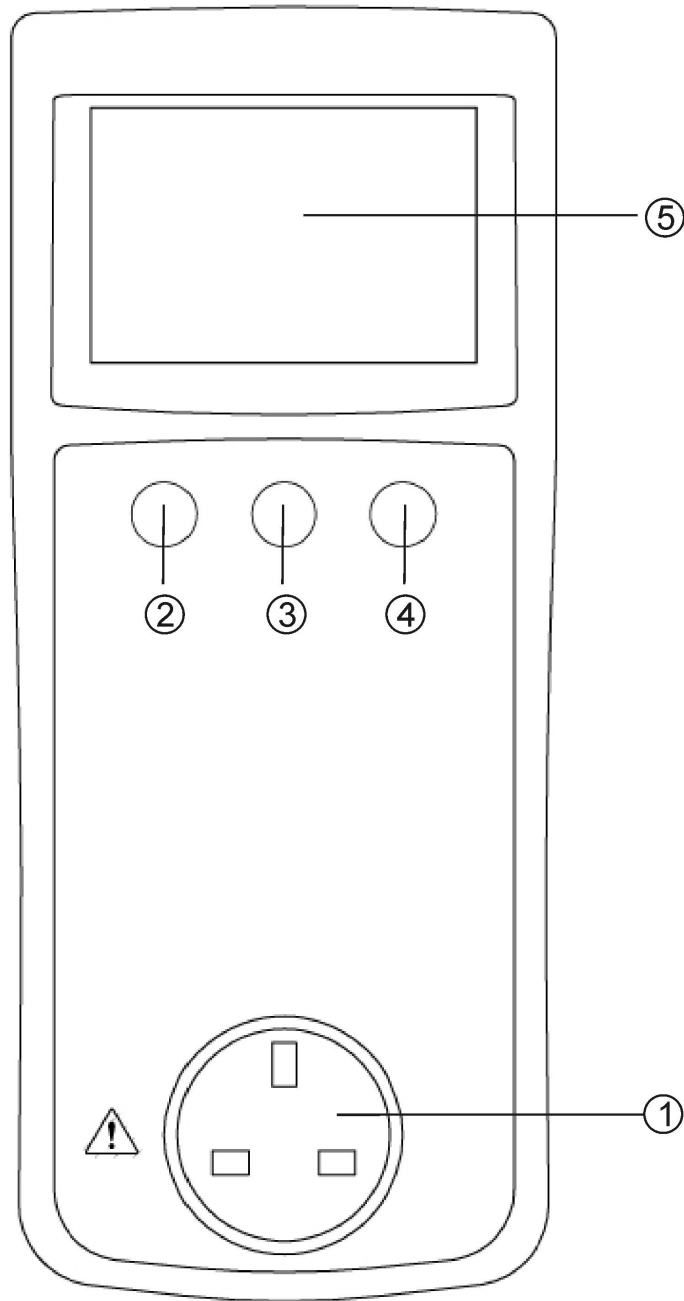
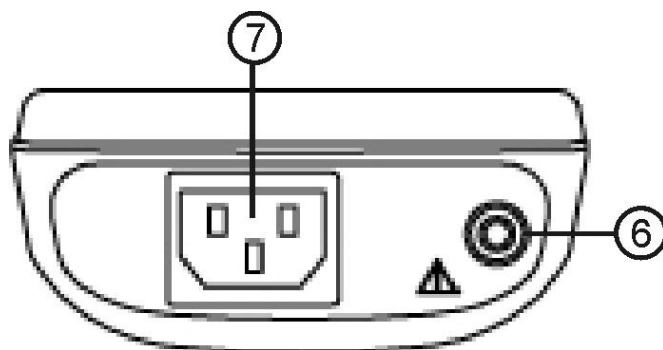

Figure 1. PB500 Front View
Figure 2. PB500 End View
Numbers shown in circles e.g. ① refer to figure 1 and figure 2 on page 6.